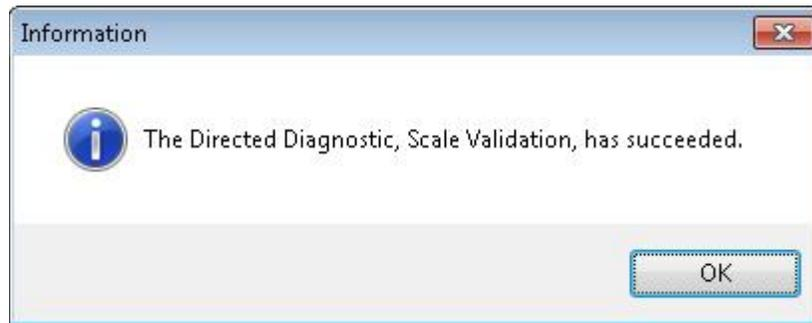

Figure 2-6. Succeeded Message
19. Click **OK** button to close Information Dialog (Figure 2-6).